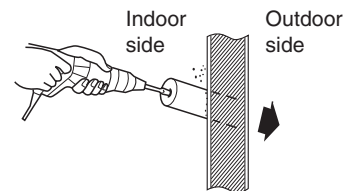

Fig. 1-95
- If the tubing and wiring are to go towards the rear of the unit, make holes in the wall. (Fig. 1-95)